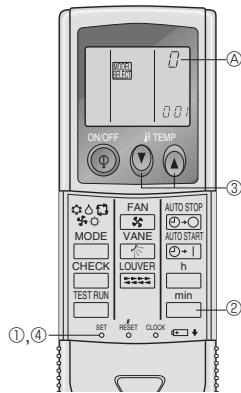

Fig. 6-9
3) IR wireless remote controller pair number setting operation (Fig. 6-9)
- ① Press the SET button with something sharp at the end. Start this operation from the status of IR wireless remote controller display turned off. **h** blinks and Model No. is lighted.
- ② Press the **min** button twice continuously. Pair No. "0" blinks.
- ③ Press the temp **h** button to set the pair number you want to set.
- ④ Press the SET button with something sharp at the end. Set pair number is lighted for three seconds then turned off.